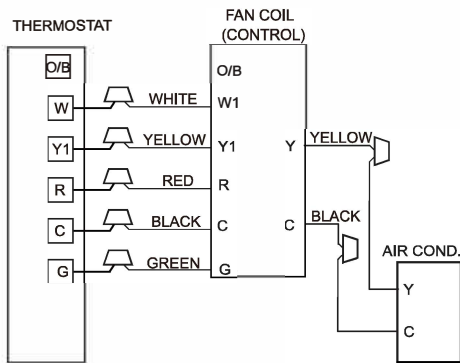
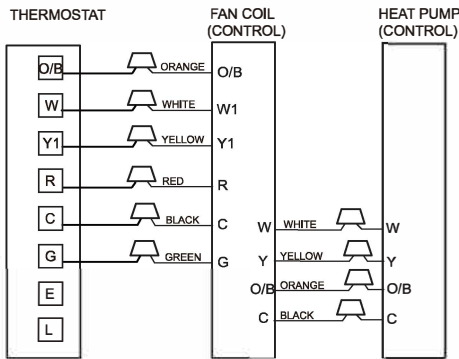

Fig. 3-4 Wiring Layout Air Conditioning Unit (Cooling and 1- Stage Heat)
Fig. 3-5 Wiring Layout Heat Pump Unit (Cooling and 2- Stage Heat)
See Figs 3-4, 3-5 for field low-voltage wiring. See Fig 2-1 for location of the electrical inlets. For maximum ampacity and over-current protection, see unit rating plate or product data sheet.
5. Connect low-voltage leads to thermostat and outdoor unit. See Fig. 3-4 and Fig. 3-5 as well as the outdoor unit wiring label.
The A2L Detection Sensor is attached to a wiring harness that connects the sensor to the control board. Refer to Fig.3-4 and Fig.3-5 for low voltage field connections between the control board and the thermostat.